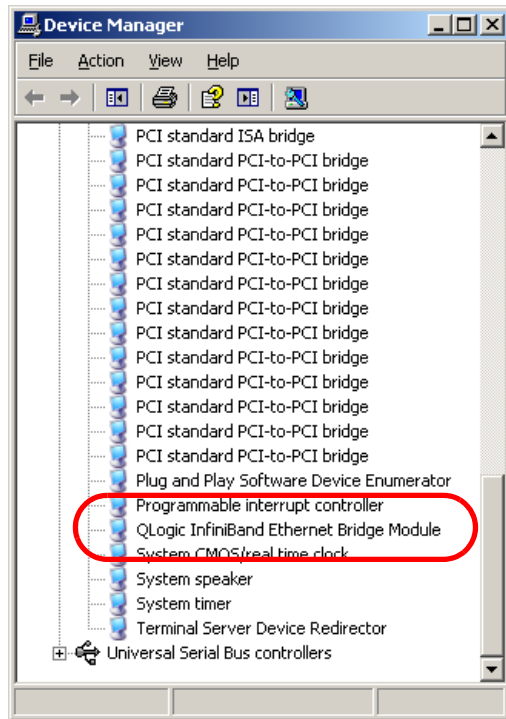

Figure 4-44 Bridge in System Devices
- Click **Next** to continue driver installation. When the driver installation is complete, you see the bridge module under System Devices in device manager as shown in Figure 4-44.